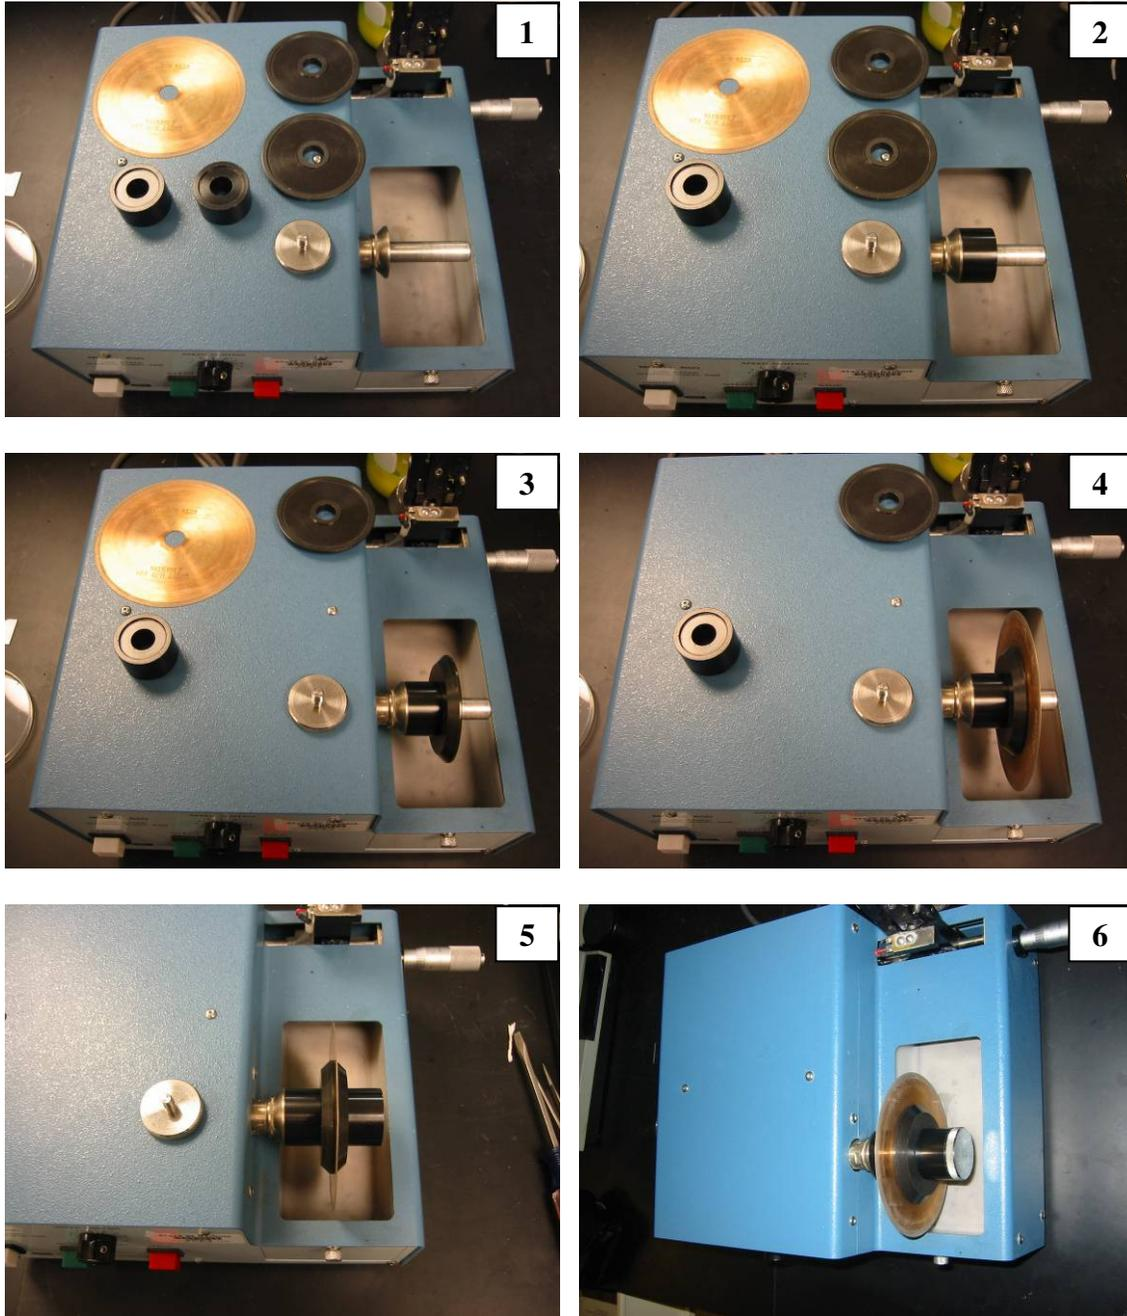

Figure 2 Sequences for installing the diamond-impregnated blade for cutting.
- (1) Install the diamond-impregnated blade as shown in Figure 2;